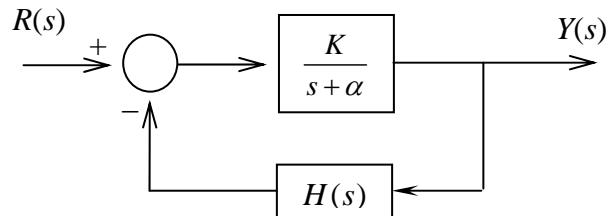

Figure 4
4. Consider the control system given in Figure 4. The parameter α has a nominal value of 10. The system is open-loop when $H(s) = 0$, and closed-loop when $H(s) = 1$. Determine the sensitivity of both the open-loop and closed-loop transfer functions to α about the nominal value of α . Compare and comment on the sensitivity of the system for $K = 1$ and $K = 100$.